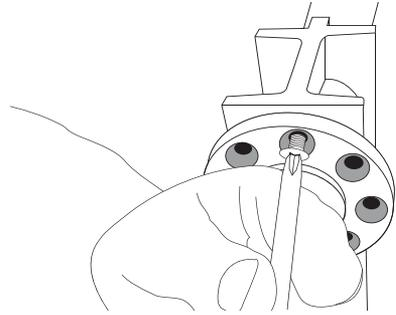

FIGURE 8
1. Unscrew and remove the adjustment plate screws (Fig. 8).